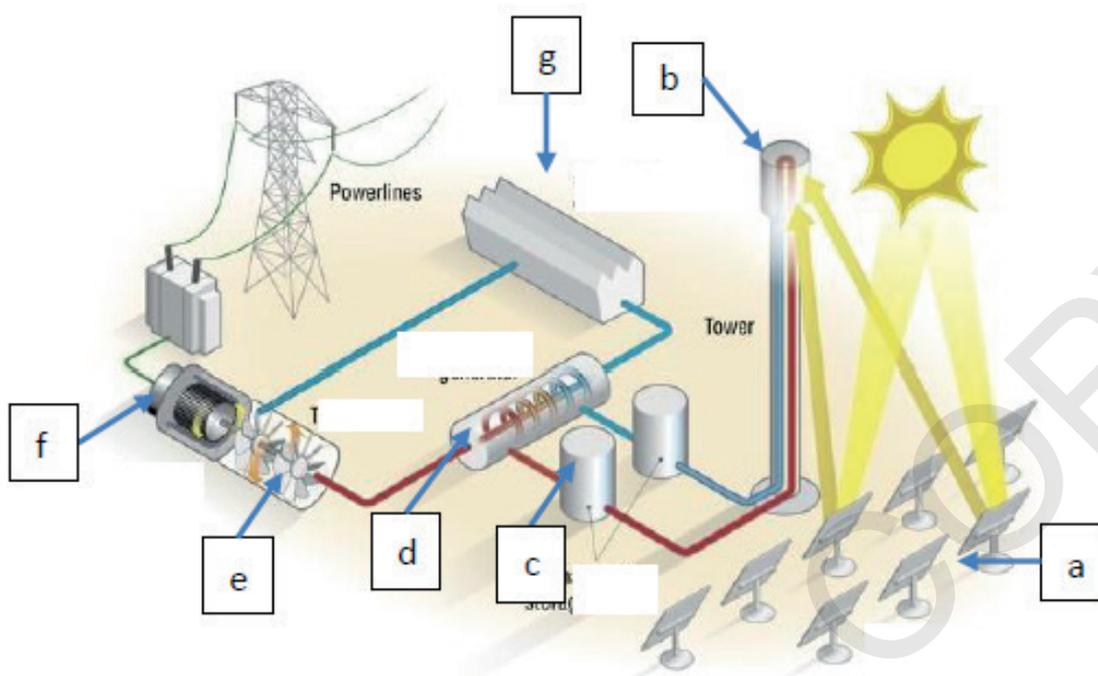

Figure 10.13
10. Add labels where indicated in Figure 10.13.